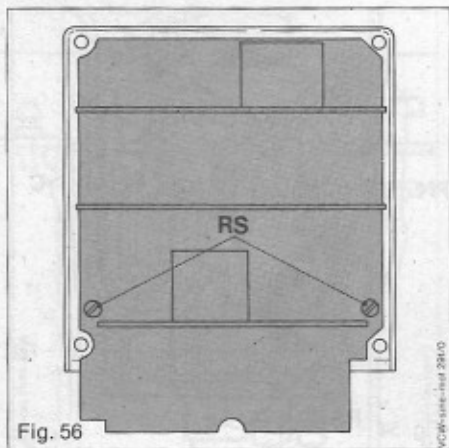

Fig. 56
14.6.5 Change of main switch circuit board (M.S.C.B.) (Fig. 56)